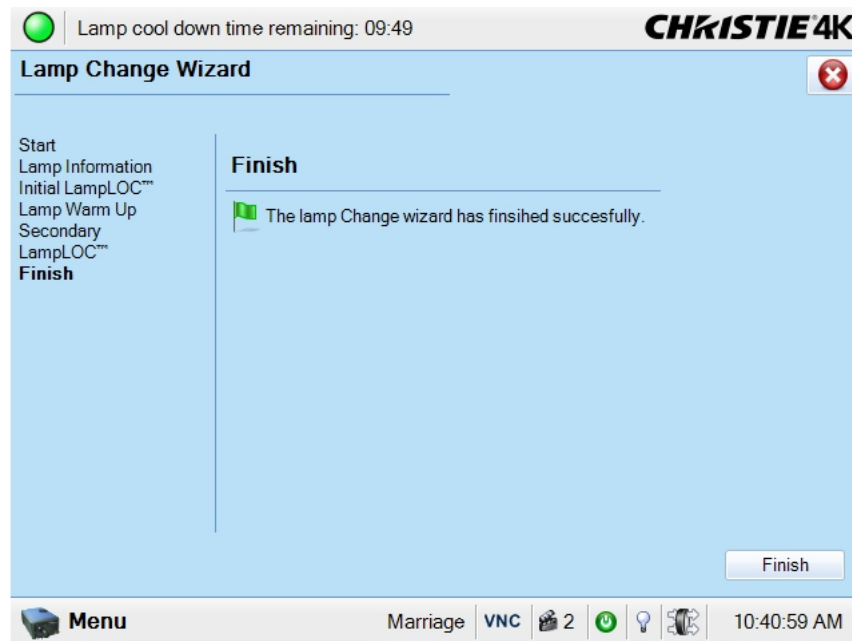

Figure 3-25 Lamp Change Completed
11. Once the lamp change is complete click **Finish** from the screen shown in **Figure 3-25**.